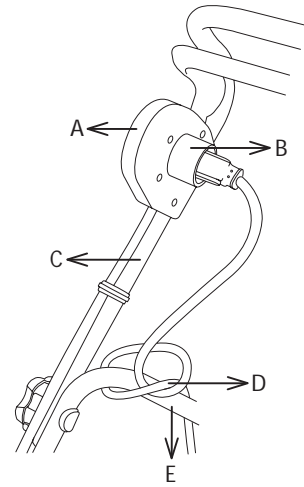

Figure 18
2. To prevent the extension cord from disconnecting during use, tie the female end of the extension cord into a loose knot on the top right side of the middle frame before connecting to the male plug in the switch housing socket of the snow thrower (Fig. 18).